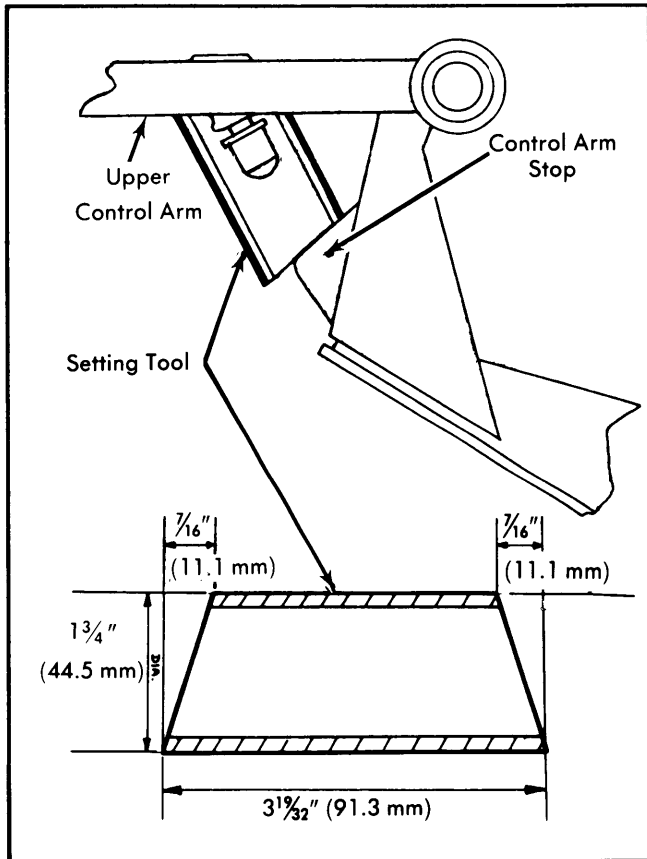

Fig. 1 Dimensions for Fabricating Setting Tools
- 1) Ensure vehicle is on level ground and that tires are properly inflated. Before checking or adjusting caster or camber, fabricate 2 setting tools as shown in Fig. 1.